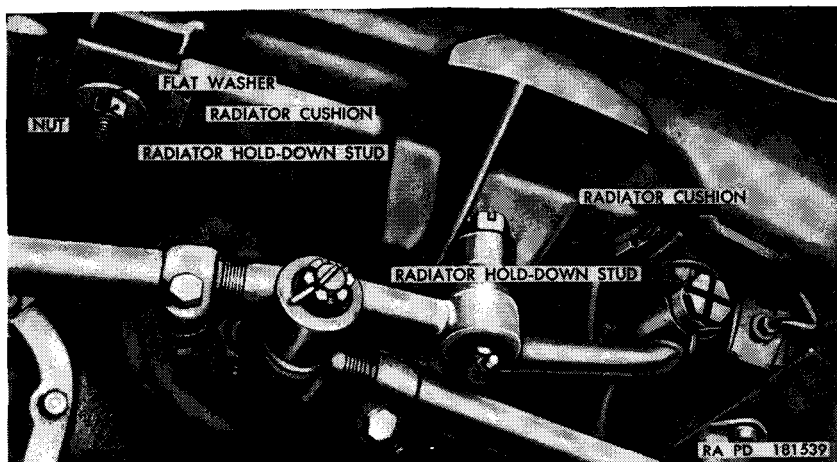

Figure 41. Radiator hold-down studs.
- (1) Secure radiator to vehicle frame cross member by installing two  $1\frac{1}{2}$ -inch flat washers and  $\frac{7}{16}$ -inch nuts on radiator holddown studs (fig. 41).
- (2) Install radiator guard (par. 263).
- (5) Remove nuts and flat washers from two radiator hold-down studs (fig. 41) holding radiator assembly to frame front cross member.
- (6) Lift radiator assembly straight up, being careful not to rub it against fan. When studs (fig. 41) are clear of frame front cross member, tip radiator forward at the top and remove from vehicle. Remove radiator cushions from studs (fig. 41).
- (1) Place radiator cushions on radiator hold-down studs (fig. 41). Carefully lower radiator assembly into place, positioning holes in brackets (fig. 32) on radiator over radiator left and right support rods.
- (2) Install two  $1\frac{1}{32}$ -inch flat washers and  $\frac{7}{16}$ -inch nuts (fig. 41) on studs securing the radiator to the frame front cross member and tighten evenly.